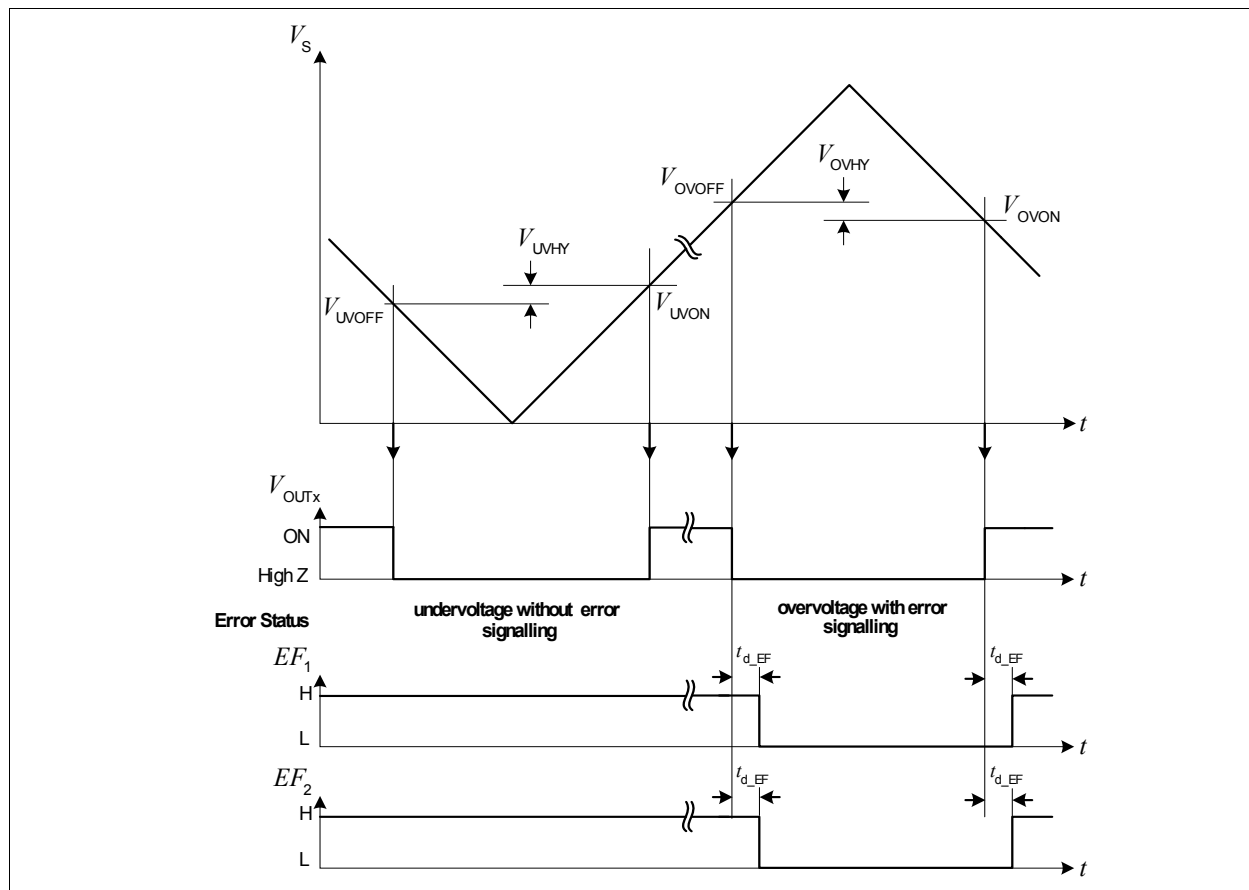
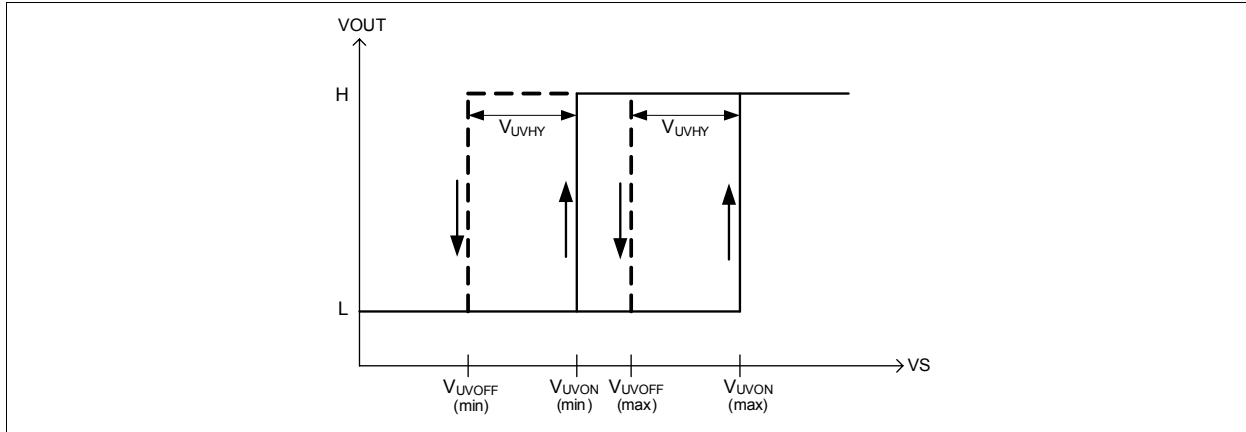

Figure 6 Error Flag behavior for the Over- and Undervoltage case
Figure 7 Undervoltage Hysteresis
- a) **Over voltage:** For voltages below the undervoltage switch OFF threshold (V_{UVOFF}) and above the overvoltage switch OFF threshold (V_{OVFF}), the output stages will be switched OFF. The Error Flag however only signals the overvoltage switch OFF case (**Figure 6**). A switching hysteresis is implemented at both thresholds to allow an autorecovery mode if the supply voltage is back within the operational range.
The power supply Voltage V_S is monitored for over- and under voltage (refer to block diagram: **Figure 1**). **Figure 6** shows the error flag signalling during an undervoltage and overvoltage situation where as **Figure 7** shows the hysteresis concept implemented during undervoltage and overvoltage.